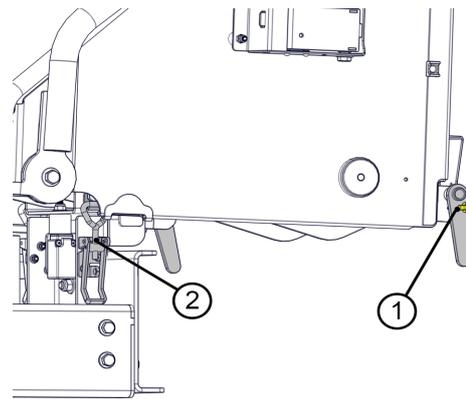

Figure 22 - Tray and Funnel Removal
2. Remove the locking pins from each side, withdraw both hinges and remove the tray from the feed funnel (Figure 22, Item 1).
4. Locate the two securing catches underneath the feed funnel and release them to detach the funnel from the chassis (Figure 22, Item 2).